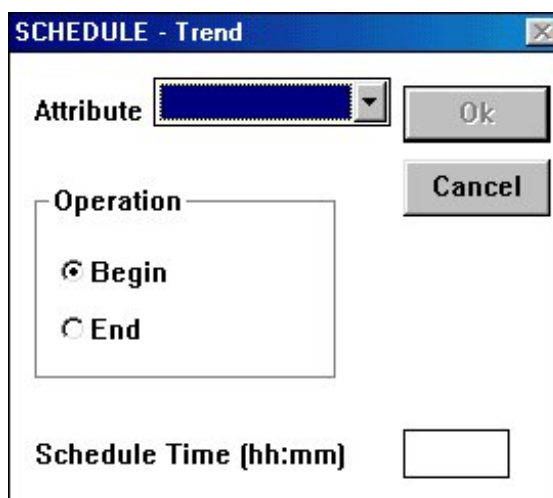

Figure 9-6: Schedule-Trend Dialog Box
5. On the Action menu, click Add Schedule Trend or Add Schedule Totalization. The Schedule-Trend (Figure 9-6) or Schedule Totalization dialog box appears.